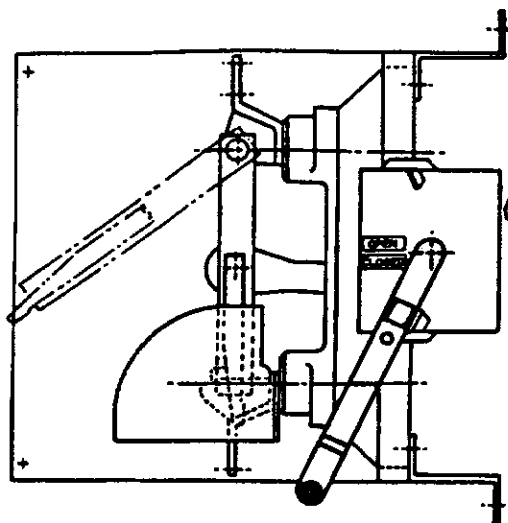

Fig. 15 Handle "Down" in switch closed position.
The component parts for this type arrangement are shown in Fig. 15. The arrangement of parts is essentially the same as for type VII, except the handle is on the right.
- a. Mount the frame-mounted switch (Fig. 15) in the enclosure. Check to be sure the 2-3/32" dimension from frame mounting holes to outside of enclosure (per Dwg. S-20148) has been maintained.
- d. Move handle to the DOWN or closed position, as shown in Fig. 15 and engage hub and key of handle with shaft extension and keyway of stored-energy device.